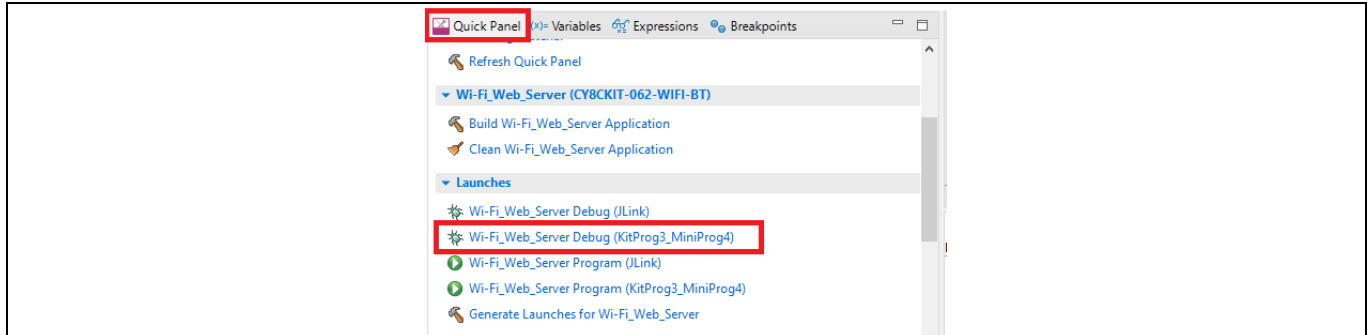

Figure 16 Debugging in ModusToolbox™ software
- ModusToolbox™ software has an integrated debugger. To debug a PSoC™ 6 MCU application, in the Project Explorer, select **<App_Name>** project. In the Quick Panel, scroll to the **Launches** section and click the **<App_Name> Debug (KitProg3_MiniProg4)** configuration as shown in **Figure 16**. For more details, see the “Program and debug” section in the **Eclipse IDE for ModusToolbox™ user guide**.